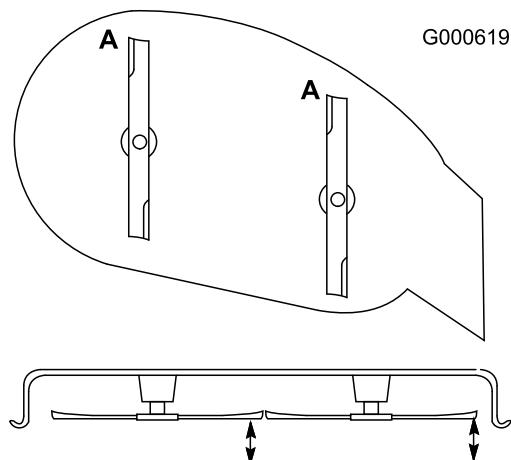

Figure 46
2. Rotate the blades until the ends face forward and backward (Figure 46). Measure from a level surface to the cutting edge, position **A**, of the blades (Figure 46). Note this dimension.